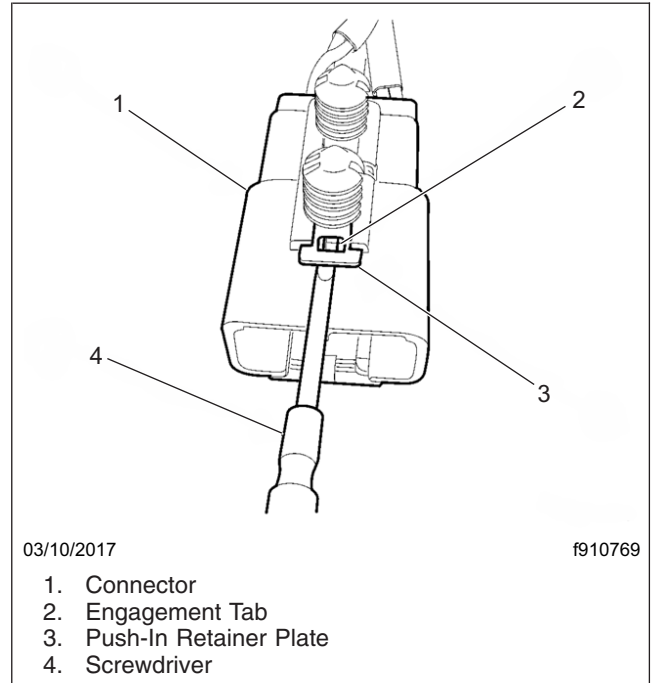

Fig. 4, Disengaging the Connector From the Push-In Retainer Plate
8. Using a small screwdriver, carefully pry the leading edge of the push-in retainer plate from the airbag inflator pigtail wire connector enough to clear the engagement tab. then slide the connector and retainer plate apart. See Fig. 4.